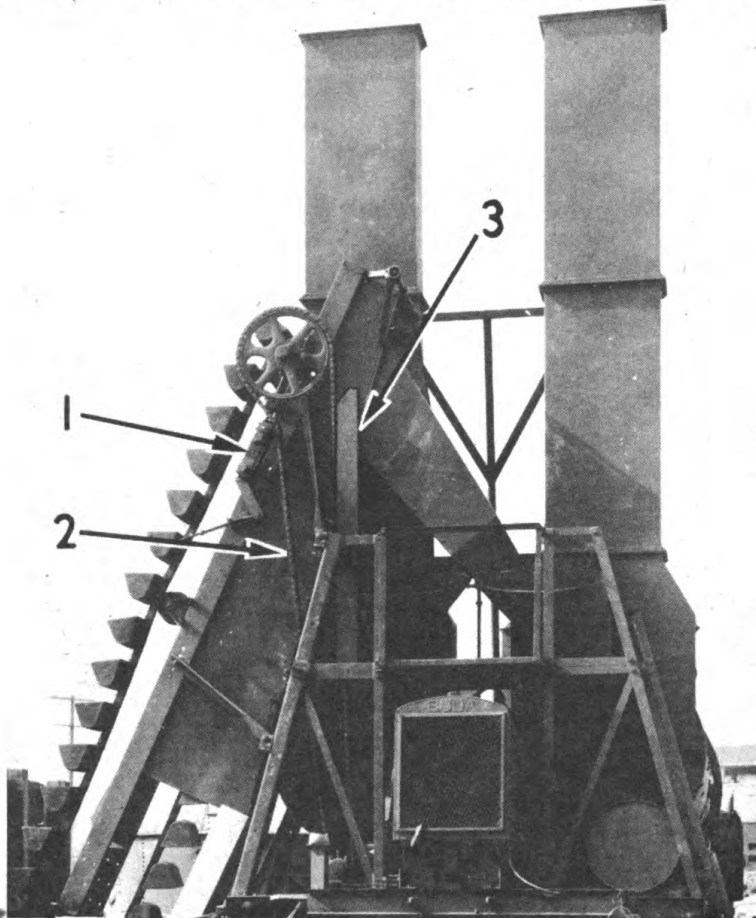

FIG. 46 - "DRYER CHARGING END SHOWING ERECTED POSITION OF COLD ELEVATOR WITH DRIVE CHAIN INSTALLED."
9. Installing Cold Elevator Drive Chain- Refer to Fig. 46
Dig pit for reciprocating feeder and for cold elevator foot end using dimensions as shown in Figure 46 A.